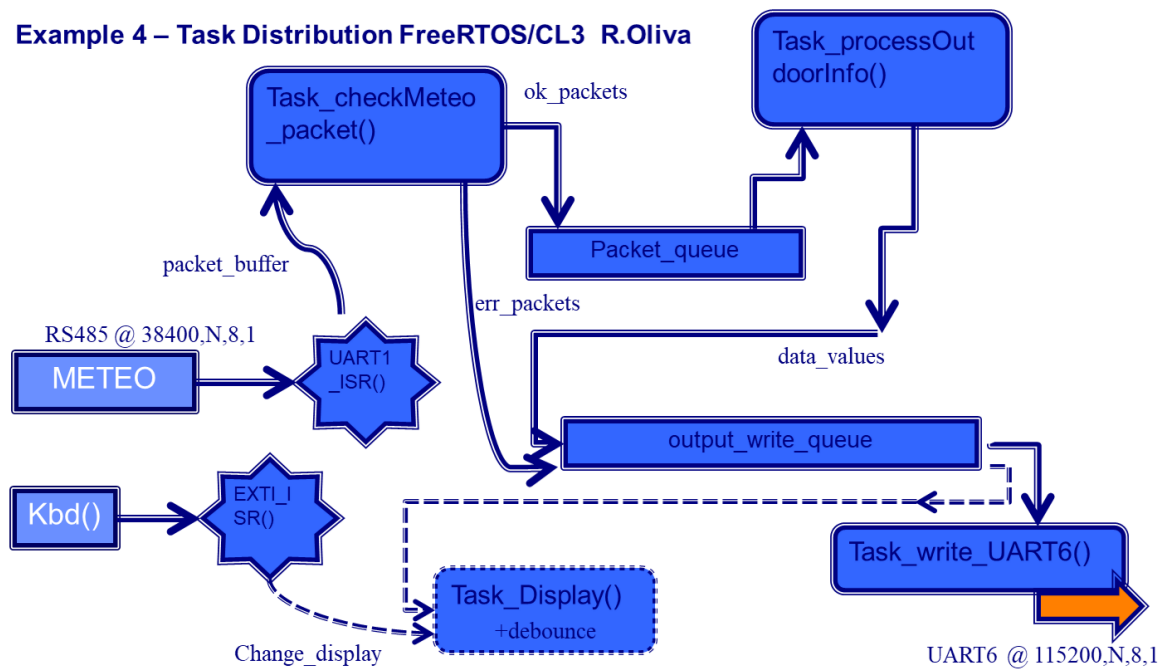
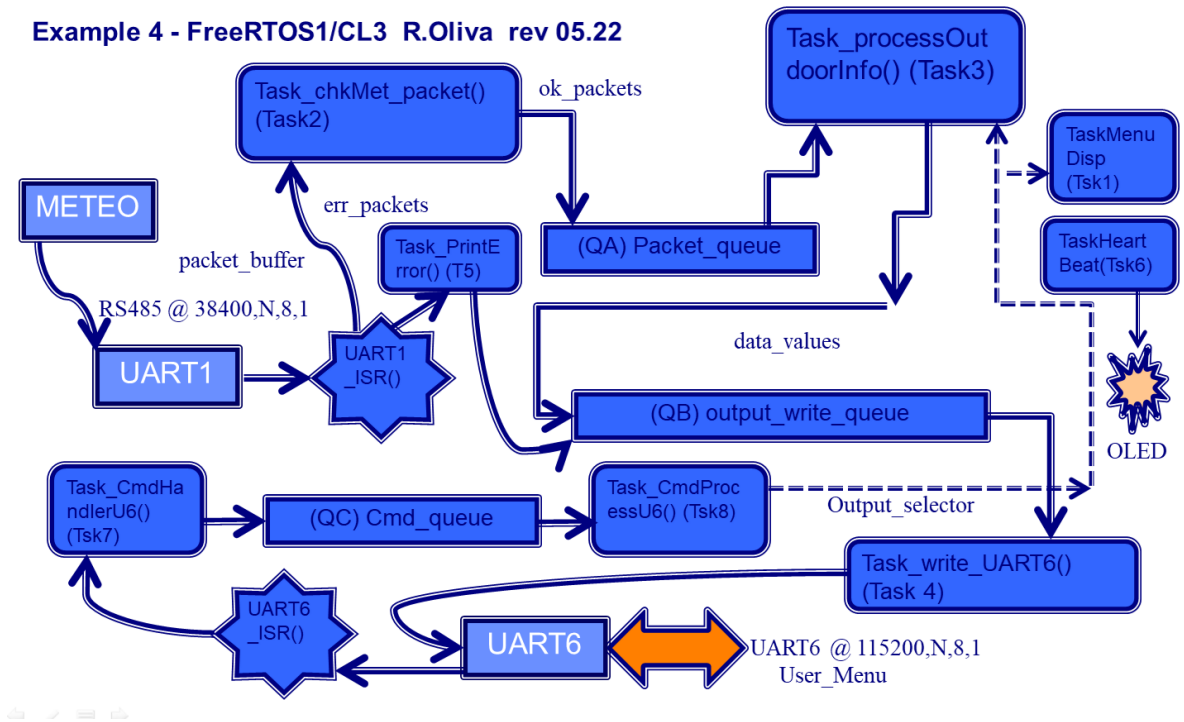

Figure 23 – Example 4 project task distribution
Figure A.3 – Example 4 on CL3 detailed Task Distribution
In FreeRTOS applications the program initializes a series of tasks and starts a scheduler, which defines execution time-slots to each task. Example 4 has a quite complex Task distribution which is outlined in Figure 23. A more complete graphical task detail is shown in Figure A.3 of APPENDIX I. A thorough description can be found (in Spanish) in [ref12].